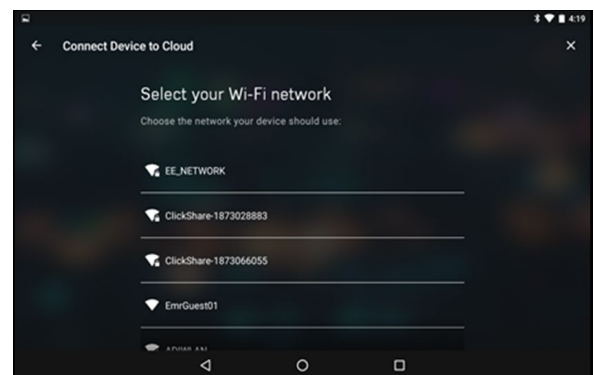

Figure 10. Available Wi-Fi Networks in App
6. When the commissioning process completes, select the preferred Wi-Fi network to upload the ADI EagleEye™ trial kit metadata to the Analog Devices cloud (see Figure 10).